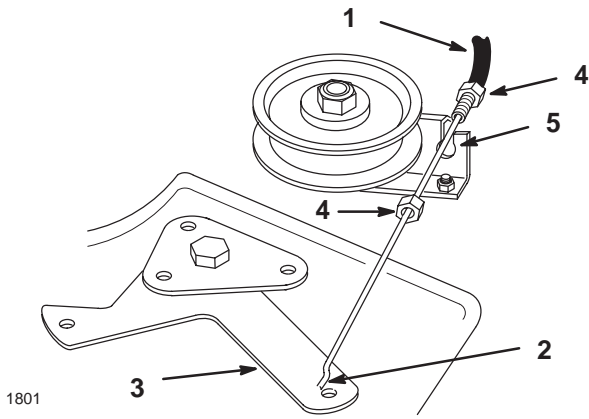

Figure 17
- Unhook the PTO cable Z end from the idler arm on the mower (Fig. 17).
- Remove the jam nut from the PTO at the mounting bracket. Slide the cable from the bracket and install the jam nut for safekeeping (Fig. 17).